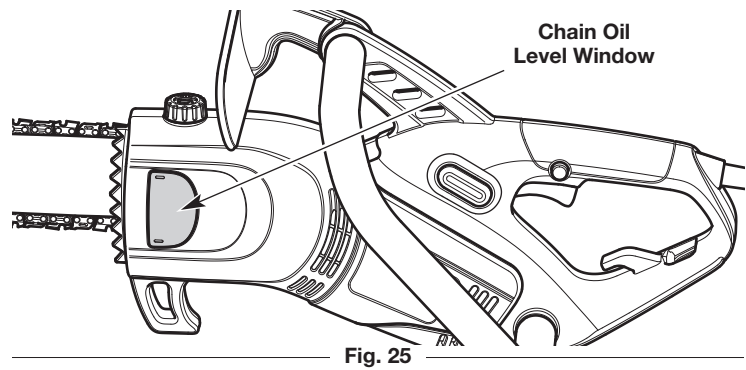

Fig. 25
2. Look into the chain oil level window. The oil level should fill the window at least halfway (Fig. 25). If the oil level is too low, add bar and chain oil. Refer to *Filling the Chain Oil Reservoir*.